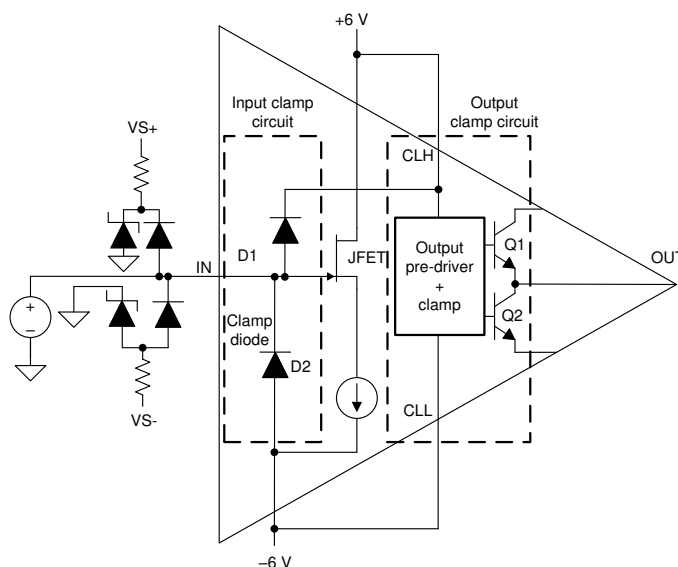

Figure 7-2. External Input Clamp Circuit
- Figure 7-2 shows how the external clamping diodes is used in cases where the 100-mA current rating of D1 and D2 is insufficient. When using external clamping, disable the internal protection of the BUF802 by connecting CLH and CLL to V_{S+} and V_{S-} .
- Figure 7-2 shows that the internal clamps are disabled by connecting CLH and CLL to V_{S+} and V_{S-} , respectively. When the clamps are disabled, the maximum output swing is limited by the output swing specification described in Section 5.5. Section 5.7 shows the response time and accuracy of the output clamp.